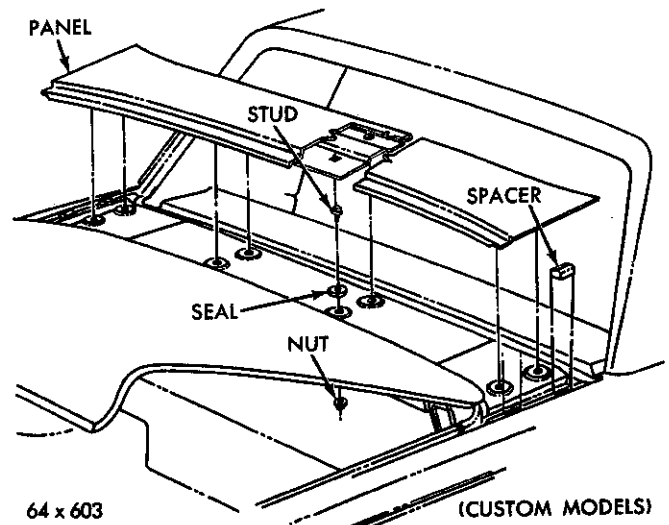

Fig. 60—Deck Lid Opening Upper Panel (Imperial)
- (1) Cover the rear deck, rear window and quarter panel areas with protective covering.
- (2) Remove the upper, lower, and center moulding retaining clips.
- (3) Remove the upper and lower and center weather strip mouldings (Figs. 60 and 61).
- (4) Using a fibre wedge, loosen the weather strip from the rear window fence, both inside and outside lips.
- (5) With an assistant steadying the glass on the outside, push against the glass at one of the upper corners, from inside the car, and remove the glass and weather strip from the fence. **Gloves should be worn as a precautionary measure.**
- (6) Place the glass on a cloth covered bench and carefully remove the weather strip from the glass.
- (7) Remove all sealer from the glass, weather strip and rear window fence.